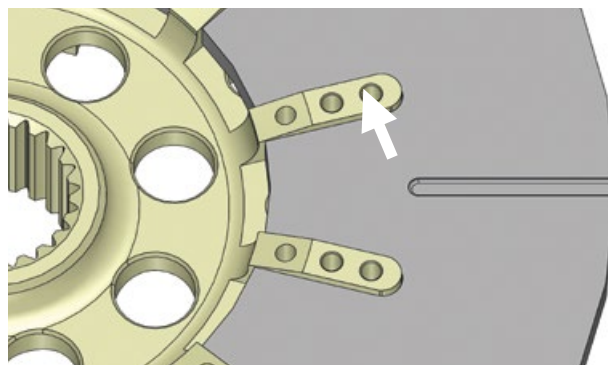

Figure 4
- With the carbon driven plates on the hub measure the gap between the drive face and the hub, (figure 4). These gaps should be no more than 1mm.